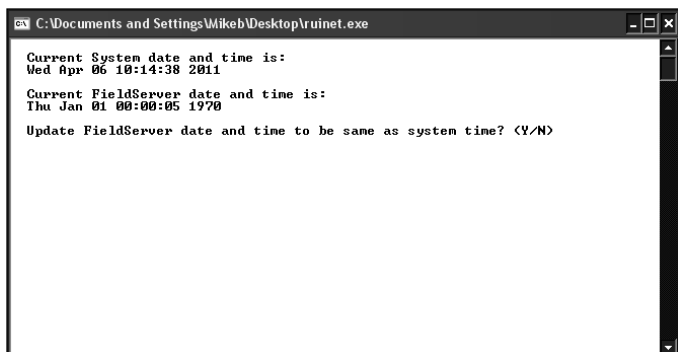

Figure 10: Update FieldServer Date and Time
2.) If RUINET is in the desktop directory (if it isn't, locate its directory), double-click on RUINET, and the RUINET program should run. Initially, you might see the screen below (Figure 10).